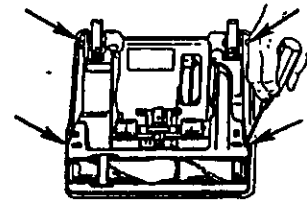

Fig. 17
2. Turn cleaner over and remove the 4 hood retention tabs. (Fig. 17).